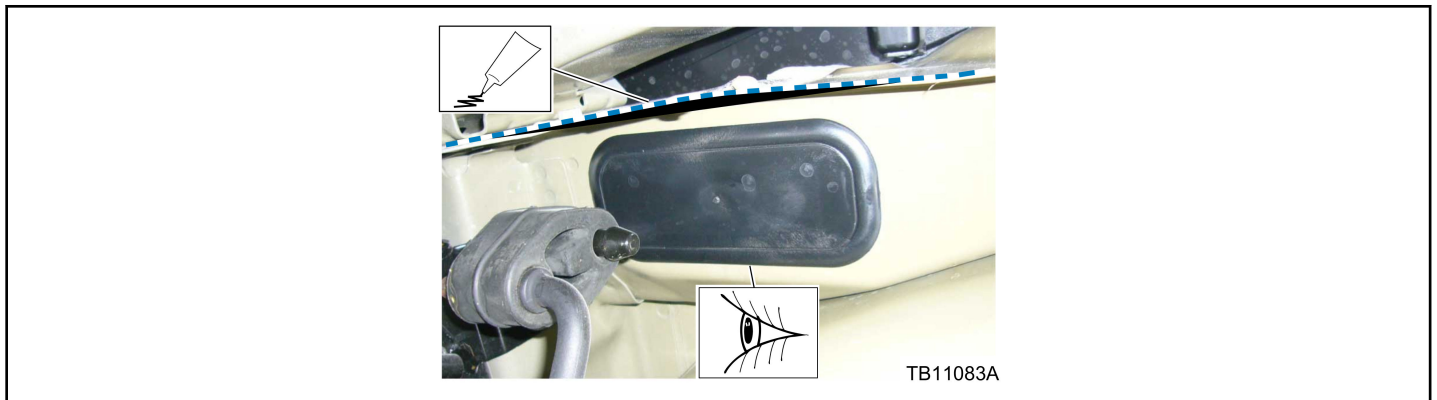

Figure 15 - Article 17-0044
12. Inspect the left and right rear rectangular underbody plugs and verify plugs are properly installed. (Figure 15)
- a. Left side shown, right side similar. (Figure 15)